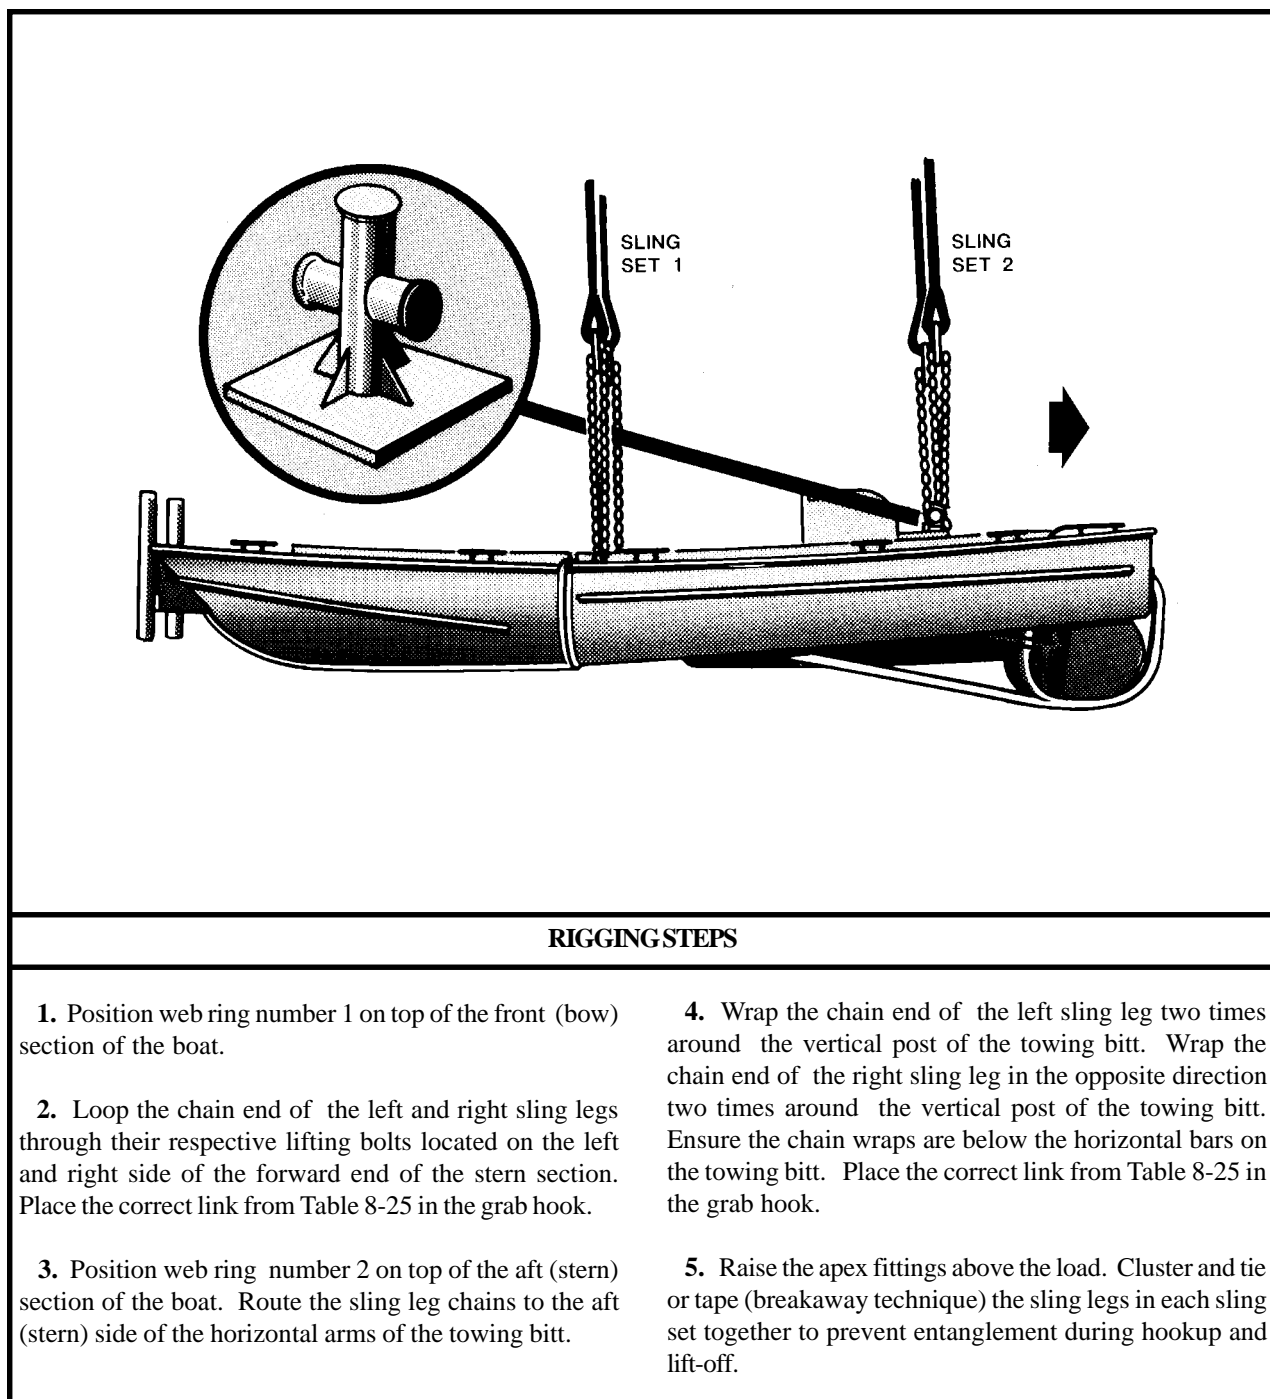

Figure 8-25. Boat, Bridge Erection
(2) **Rigging.** Rig the load according to the steps in Figure 8-25.